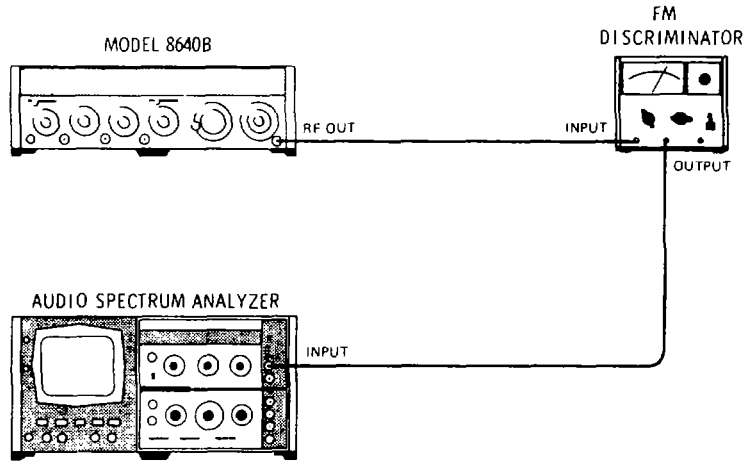

Figure 5-13. FM Linearity Adjustment (Alternate) Test Setup
1. Connect equipment as shown in Figure 5-13 after setting Signal Generator's controls as follows: